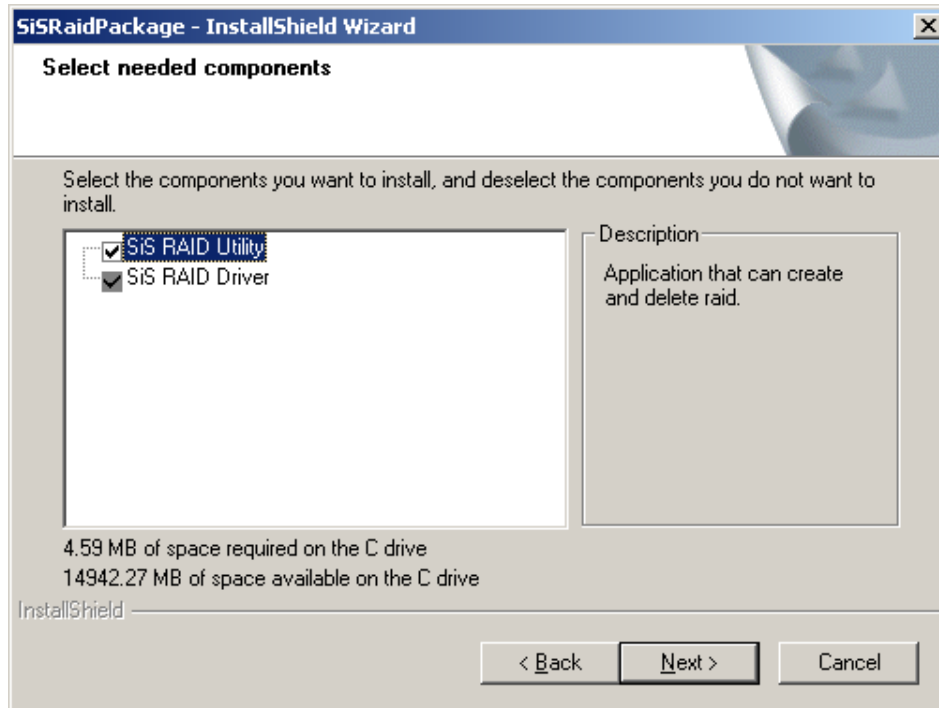

Figure 6-33: Select Needed Components
Step 10: The **Select Needed Components** window appears (**Figure 6-33**).